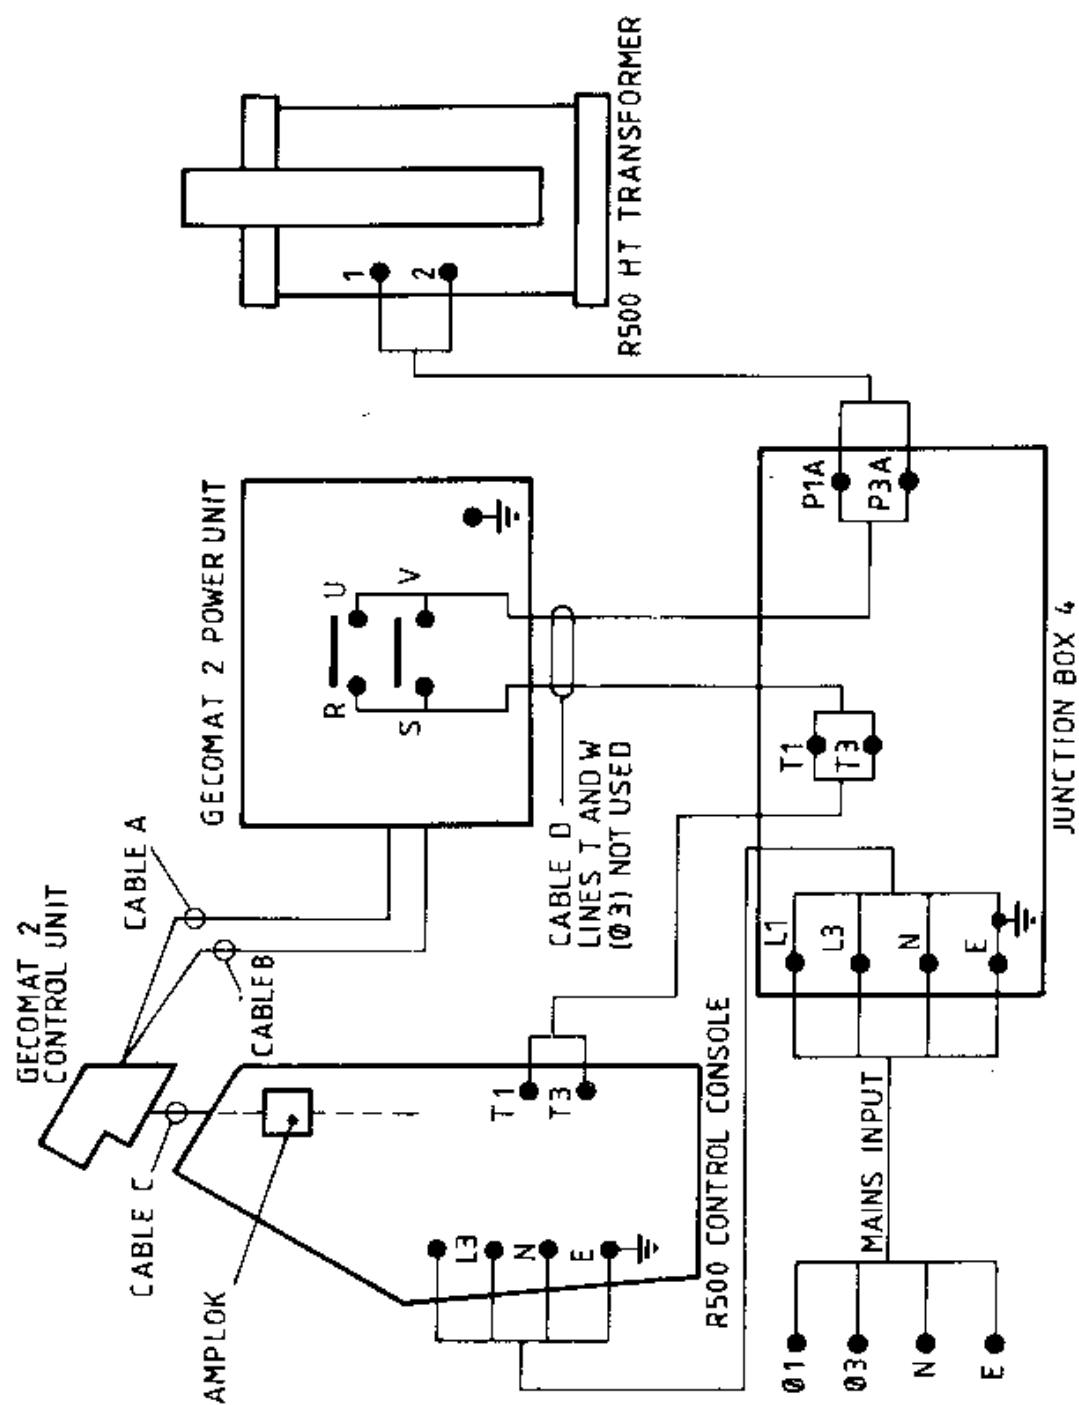

FIG.15 GECOMAT CONTROL UNIT - INTERCONNECTIONS
- C Interface the Gecomat 2 to the R500 (see Fig.15 and Fig 17)